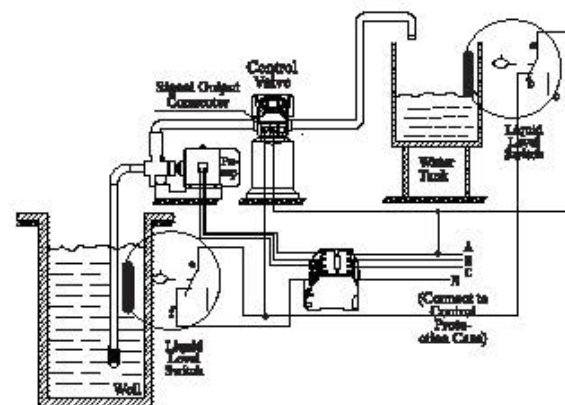

Figure 3-6 Wiring of Liquid Level Switch in Water Tank Controls 380V Inlet Pump
3) Liquid Level Switch in Water Tank Controls Inlet pump (Three-phase. Figure 3-6) (Set b-01)